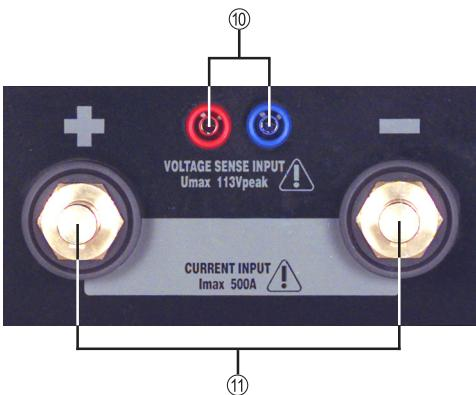
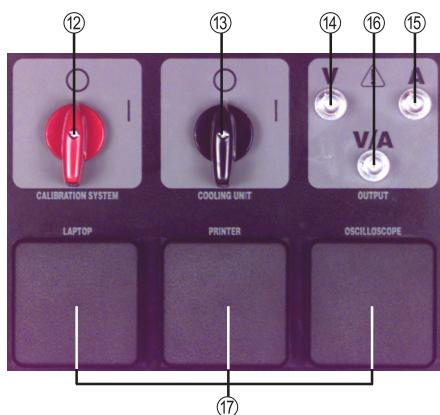

Fig.3 Jacks and connectors at front panel
Fig.4 Controls/connectors at rear panel
②⁷ **Measurement line** ... to connect calibration system (fig. 4.) with an external measuring instrument.
②⁸ **Torch control connection cable**
②⁹ **Fitting piece for Fronius central connector**
②⁺ **Fitting piece for Euro central connector**
③¹ **Current cable +/- with sense lines** ... connection between output of welding unit and calibration system (fig. 3, current connector ⑪ and sense input ⑩).
③² **Start button** ... using the Start Button the start signal may be transmitted to the power source in operating modes TIG and MIG/MAG; inactive unless torch control connection cable ②⁸ is connected between welding unit and calibration system.
③³ **Water circuit by-pass tube** ... when using a Euro central connector fitting piece
③⁴ **Fitting piece BNC-jack -> banana plug** ... to connect measurement line + filter with a measuring instrument
③⁵ **Low-pass filter** ... serves to filter the signals measured, in case high-frequency signals (limit frequency  $f_g = 5\text{kHz}$ ) cause interference. The filter must be connected with the end of the measurement line, i.e. directly before measuring instrument.